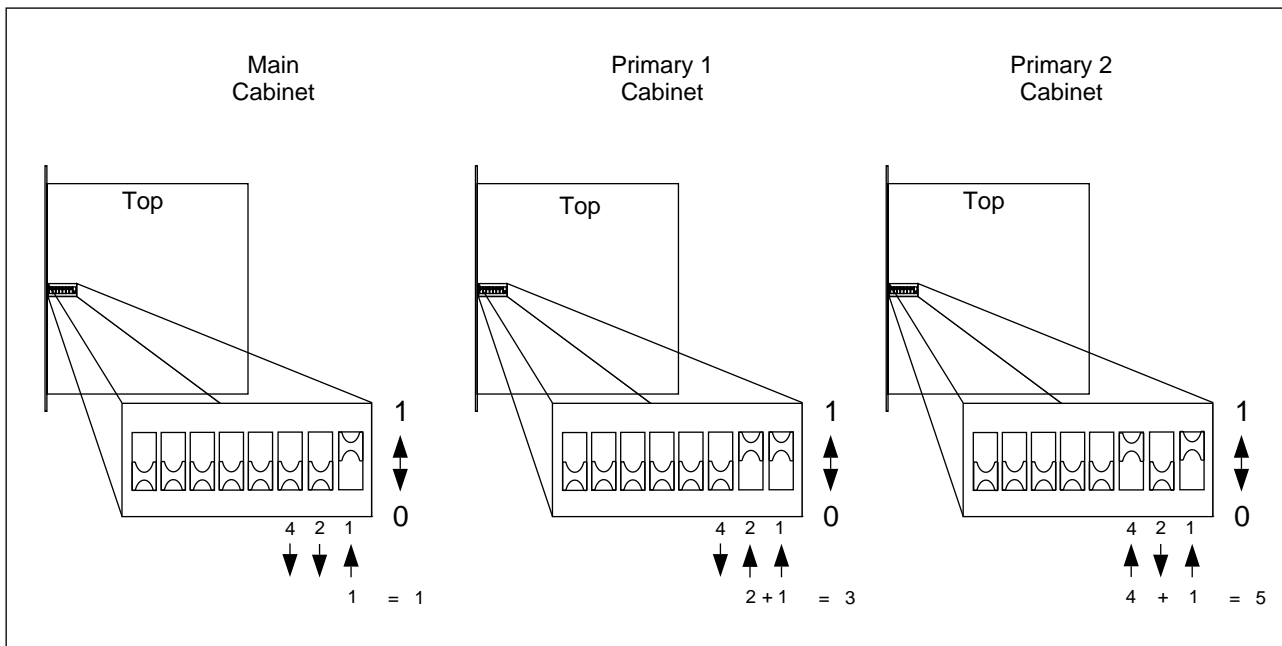

Figure 4-33. EMRPM Address Setting
4. Locate the DIP switch and set the EMRPM address, as shown in Figure 4-33 on page 4-50, depending on which cabinet is being configured. Set the address as follows: